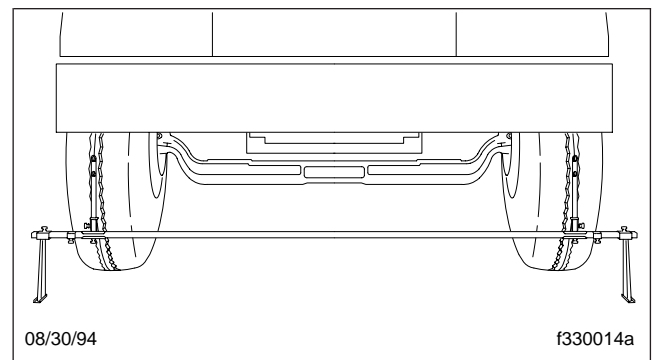
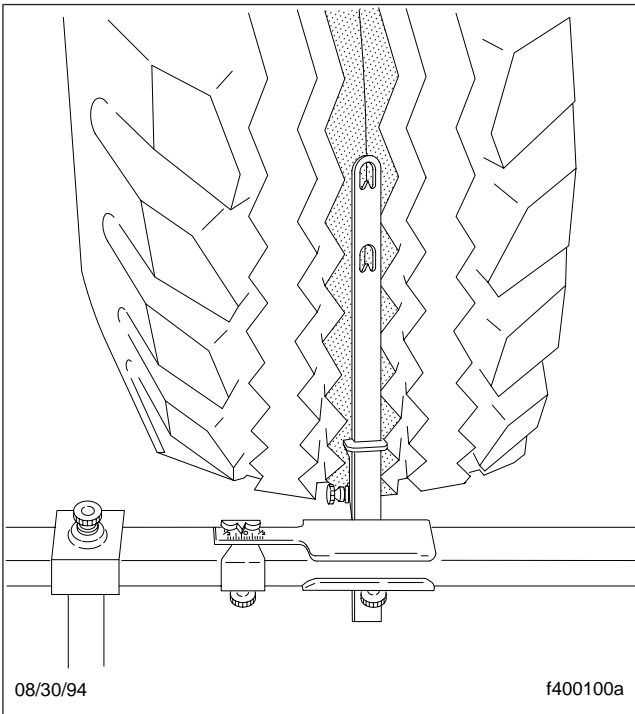

Fig. 5, Trammel Bar Positioning
Fig. 6, Setting Trammel Bar Pointers
7. Place the trammel bar at the front of the tires and adjust the scale end so that the pointers line up with the scribe lines. See Fig. 5 and Fig. 6.